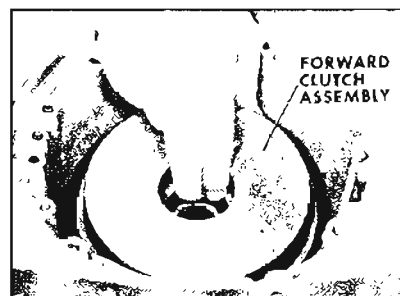

Figure 5-130
3. Remove forward clutch assembly by pulling straight out of case. Make certain low band has been released before attempting to remove forward clutch. See Figure 5-130.